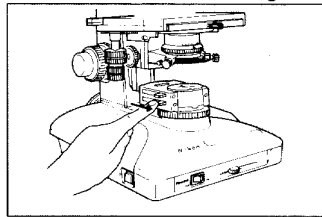

Fig. 3-2
- 2) Slide the filter insertion / removal knobs of the ND filter cassette to the limit to place the entire ND filter in the optical path (Fig. 3-2).